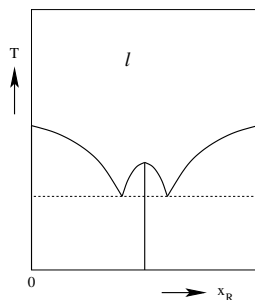

Figure 1: Phase diagram of a racemic compound.
In Figure 1 you can find a typical x, T phase diagram for a racemic compound.
- c) Determine which phase can be found where in the diagram of Figure 1 and examine what happens if a liquid solution with an initial composition of $x_R \neq 0.5$ is cooled until it is completely solid.